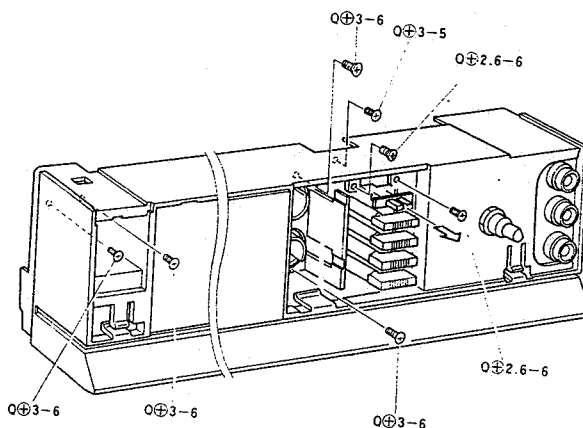

Fig. 10
- 7) Detach the tape selector button and remove 7 screws. (See figure 10)